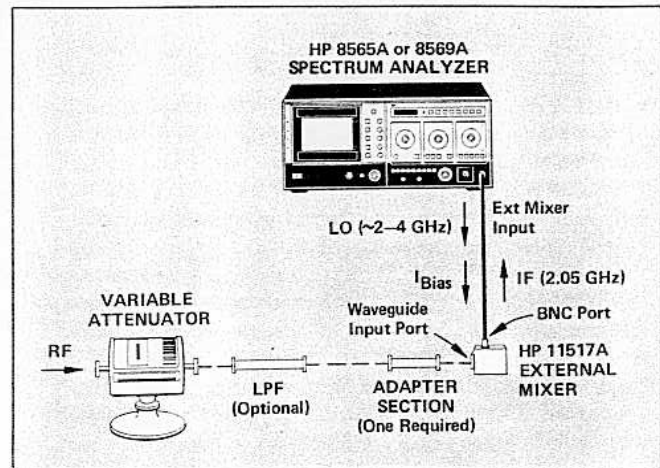

Figure 1. Harmonic mixing set-up.
Using the set-up shown in Figure 1, with the spectrum analyzer switched into one of its external mixer bands and an input signal (RF) applied to the mixer, three signals are present at the analyzer's external mixer BNC port: the analyzer's local oscillator (LO), the intermediate frequency (IF), and the external mixer bias (I_{BIAS}).